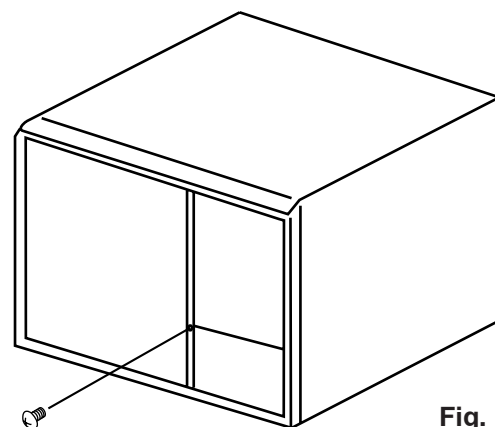
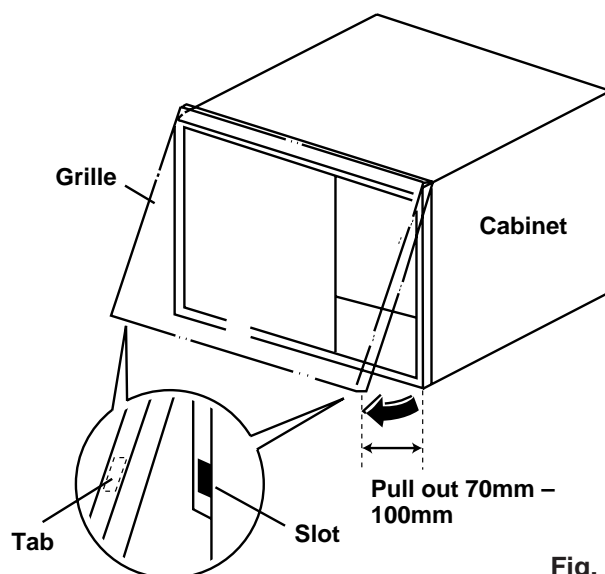

Fig. 1
Fig. 2
- (1) Pull out the filter.
- (2) Remove the screw holding the grille in place. (Fig. 1)
- (3) Slide the side of the grille to the left and right to disengage the tabs on the left and right sides of the grille from the slots.
- (4) Pull the bottom portion of the grille toward you while paying attention to the ventilator lever. (Fig. 2 and 4)